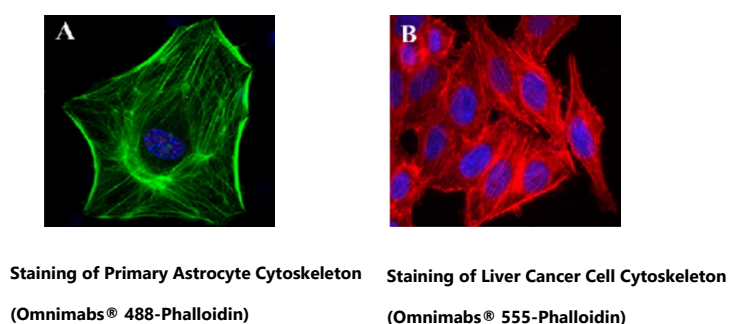

Figure 1 Staining Effect Diagram of Phalloidin
4. Experimental Effect Diagram (Figure 1)